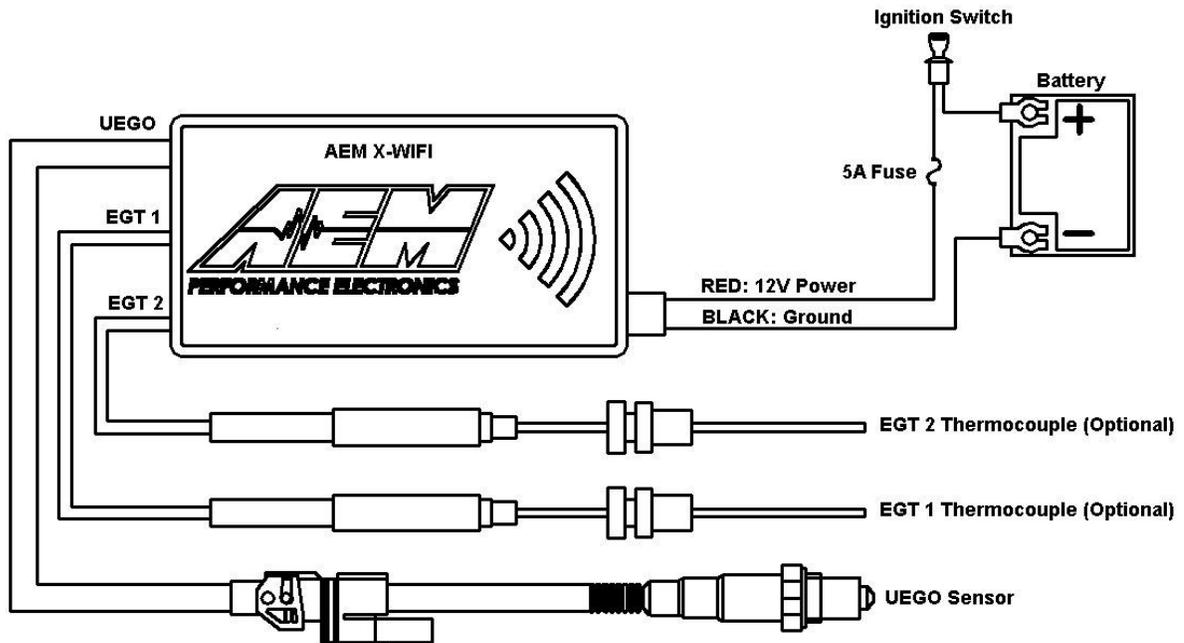

Figure 1. Wiring Schematic
4. Connect the 3-pin connector on the thermocouple extension harness to either the EGT 1 location or EGT 2 location as shown above in Figure 1.